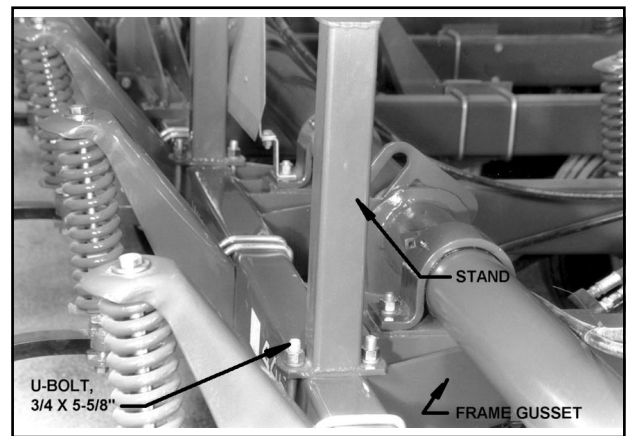

Figure 3-24 - Wing Frame Stand
a. Attach each wing stand on rear bar at frame gusset. Insert U-bolt inside gusset about 38-1/2" from ends of main frame rear bar (See Figure 3-24).